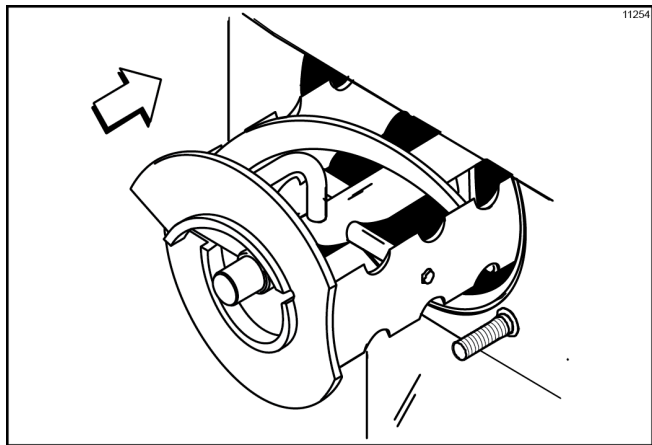

Figure-114
- Holding the blades on the beater assembly, insert the beater assembly in the freezing cylinder. Engage the shaft end firmly into the driveshaft socket. (See Figure-114.)